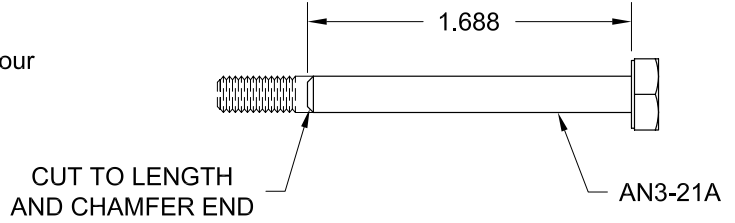

FIGURE 1: CABIN DOOR HINGE PIN
Step 11: Trim the outside perimeter of the C-1002-L and R Doors to within 1/8 inch of the molded-in scribe line except leave a small tab-out at the front and rear indexing holes. See Page 45-04, Figure 1, "Stage 2: Trim to Fit Opening in Cabin Cover".
Step 12: Trim the indexing hole tab-outs from the C-1002 Doors. Sand a 45 degree bevel into the outside perimeter of the doors as shown on Page 45-04, Figure 1, "Stage 3: Remove Index Hole Tab-Outs and Bevel Edges". Trim/sand the door as required for it to just fit the opening in the fuselage.
Step 1: Cut-off the threaded ends of four AN3-21A bolts as shown in Figure 1.